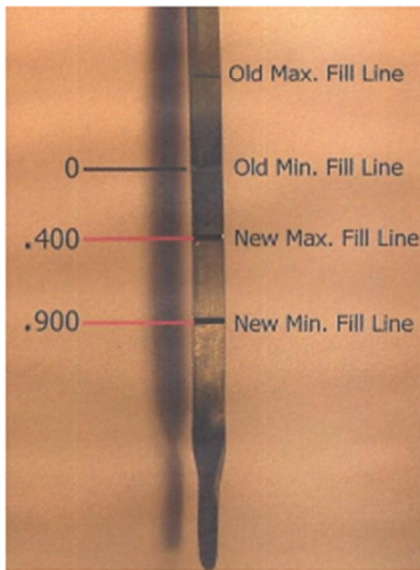

Figure 1.
- (1) Gain access to the ACTM oil dipstick
- (2) Remove ACTM oil level dipstick from the ACTM fill tube and place on top flat surface of bench top.
- (3) Clean dipstick with rag and alcohol.
- (4) Mark dipstick with marking pen per dimensions shown in figure 1.
- (5) Using the small triangle file, place edge of file over marks and stroke. Keep file perpendicular to the dipstick. You only need to score the dipstick until the lines are apparent.
- (6) Obliterate/remove original markings by either:
- (7) Clean dipstick and reinstall onto bus.
- (8) Provide record of work performed to BAE Systems. Include the following information: